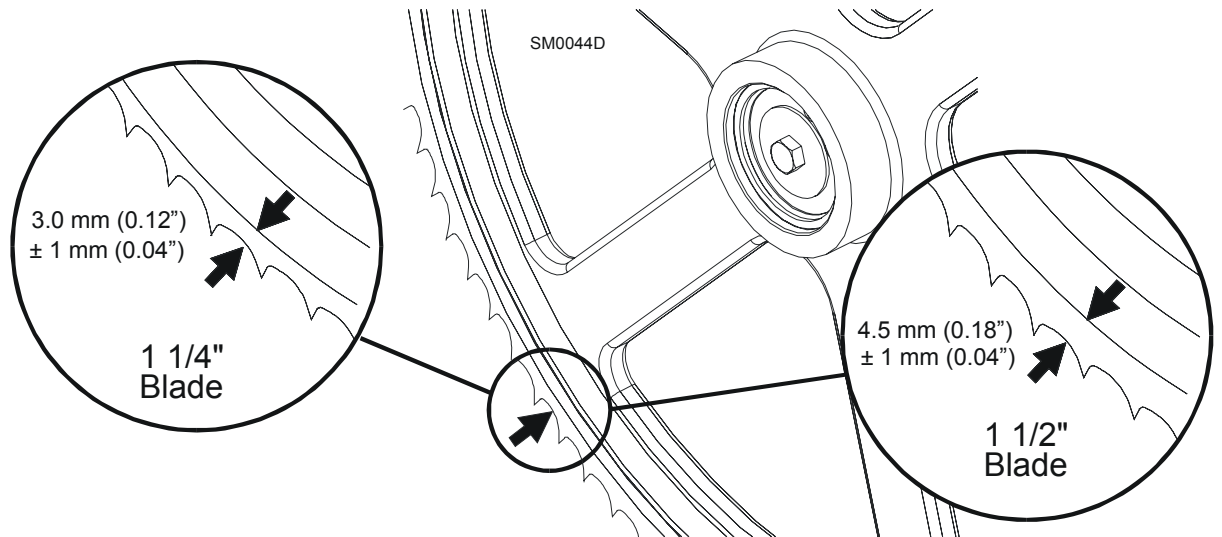

FIG. 5-19
**See Figure 5-19.** The horizontal tilt of the blade wheel should be adjusted so that the gullet of a 1-1/4" blade is 1/8" (3 mm) out from the front edge of the wheel ( $\pm 1/26$  [1mm]). The gullet of a 1-1/2" blade should be 3/16" (4.5 mm) out from the front edge of the wheel ( $\pm 1/26$  [1 mm]). Do not let the teeth ride on the wheels.